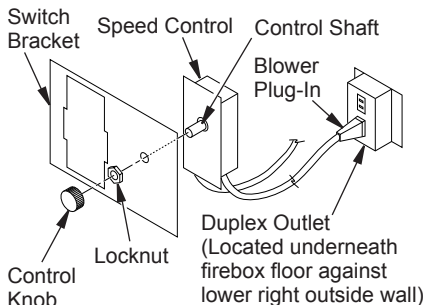

Figure 26 - Attaching Speed Control to Firebox
5. Mount speed control box to switch bracket by placing plastic control shaft forward through round opening in switch bracket (see Figure 26).
5. Mount speed control box against mounting plate provided in lower fireplace cavity by placing plastic control shaft forward through round hole (see Figure 26, page 19).
6. While supporting speed control, secure control shaft with lock nut by pushing and turning lock nut with pliers clockwise until it is tight against mounting plate. Place provided control knob on shaft (see Figure 26, page 19).